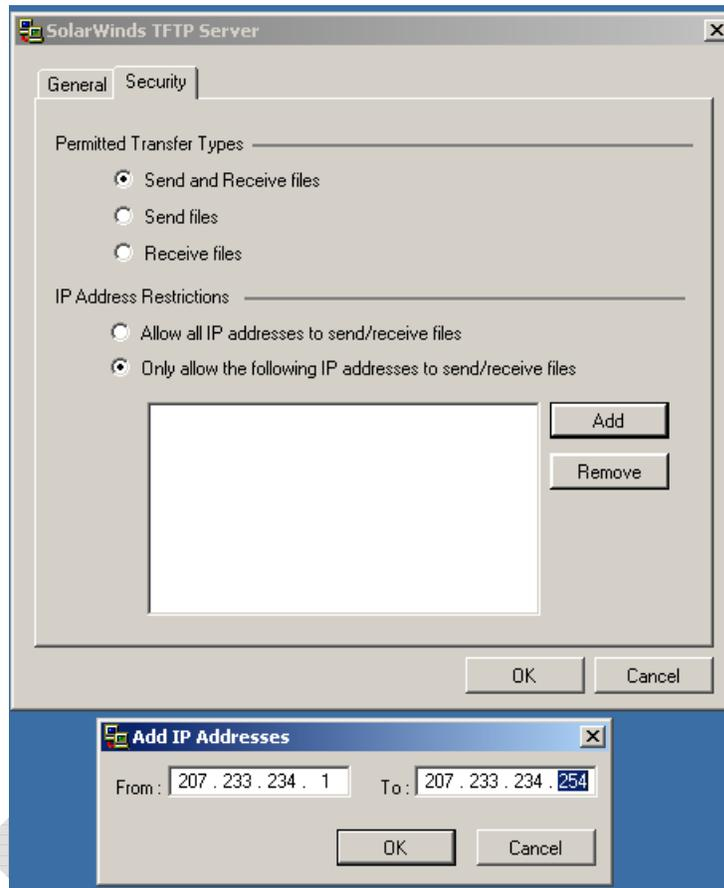

Figure A-2: Solar Winds TFTP Server Window Security Tab
- a. Select **File, Configure** and then select the **Security** tab. The *SolarWinds TFTP Server* window will display. Refer to Figure A-2.
- e. Select **OK** in the *Add IP Addresses* window and then select **OK** in the *SolarWinds TFTP Server* window (Figure A-2).